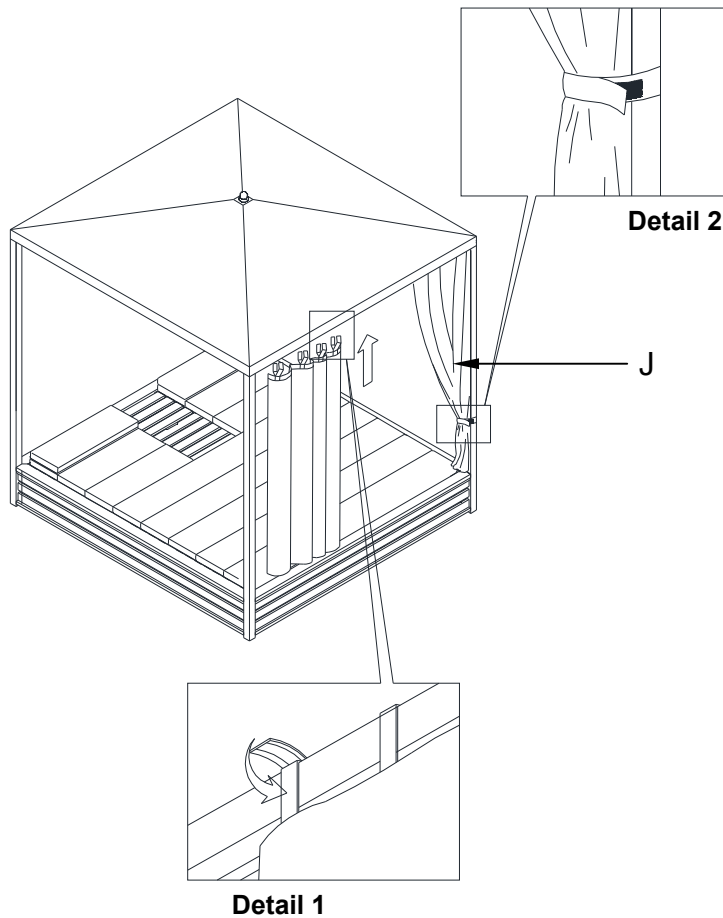

Fig. 12
12. Attach 8 pcs Curtains (J) to each sides of Daybed as shown on Fig.12.
Secure the Velcro to the rail of the Top Frame (B). See Fig. 12 Detail 1
Secure the Curtain (J) to the Post (C). See Fig. 12 Detail 2.